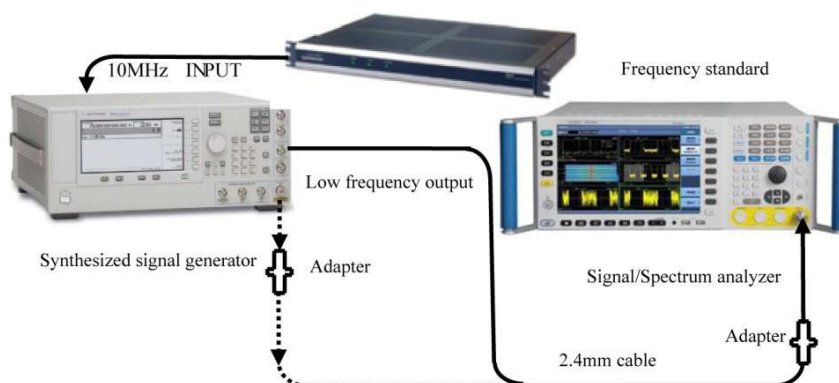

Fig. 8.1 Schematic diagram of frequency range test
- 1) Connect the frequency standard output to the 10 MHz input of the signal generator according to Fig. 8.1 to provide reference frequency for the synthesized signal generator with the external frequency standard and connect the low frequency output of the synthesized signal generator to the input interface of the S3503 signal/spectrum analyzer (if no frequency standard is available, optional signal generator with frequency of high stability can be used).
- 1) Connect the frequency standard output to the 10 MHz input of the signal generator according to Fig. 8.1 to provide reference frequency for the synthesized signal generator with the external frequency standard/ Connect the low frequency output of the synthesized signal generator to the input interface of the S3503 signal/spectrum analyzer (if no frequency standard is available, optional signal generator with frequency of high stability can be used).